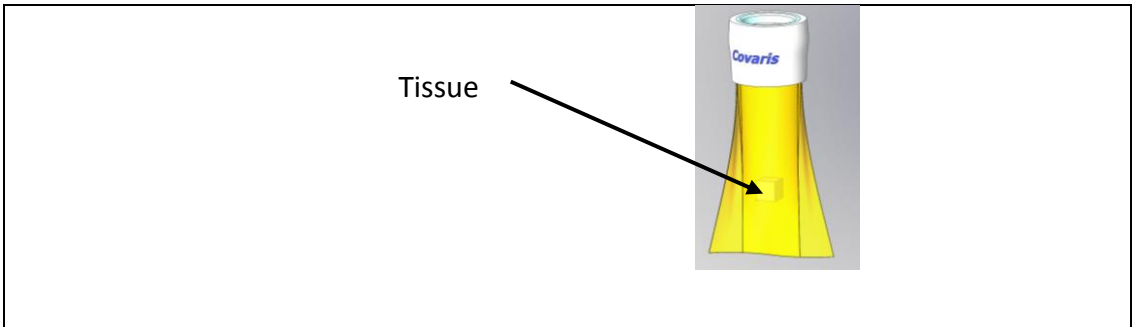

Figure 2 - tissueTUBE with frozen tissue
- 1. Load Sample into the tissueTUBE** – Using gloved hands, pinch the bottom 1/3rd of the tissueTUBE, and insert the sample through the top opening of the tissueTUBE as illustrated in Figure 2, using forceps or tweezers. Place the sample 1/3 of the way up the bottom of the tissueTUBE in the center away from the edges.